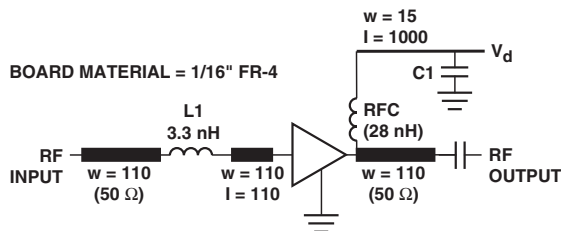

Figure 10. Test Circuit for 2 GHz.
1. Guaranteed specifications are 100% tested in the circuit in Figure 10 in the Applications Information section.
The circuit shown in Figure 10 is used for 100% RF testing of Noise Figure and Gain. The input of this circuit is fixed tuned for a conjugate power match (maximum power transfer, or, minimum Input VSWR) at 2 GHz. Tests in this circuit are used to guarantee the NF_{test} and G_{test} parameters shown in the Electrical Specifications Table.